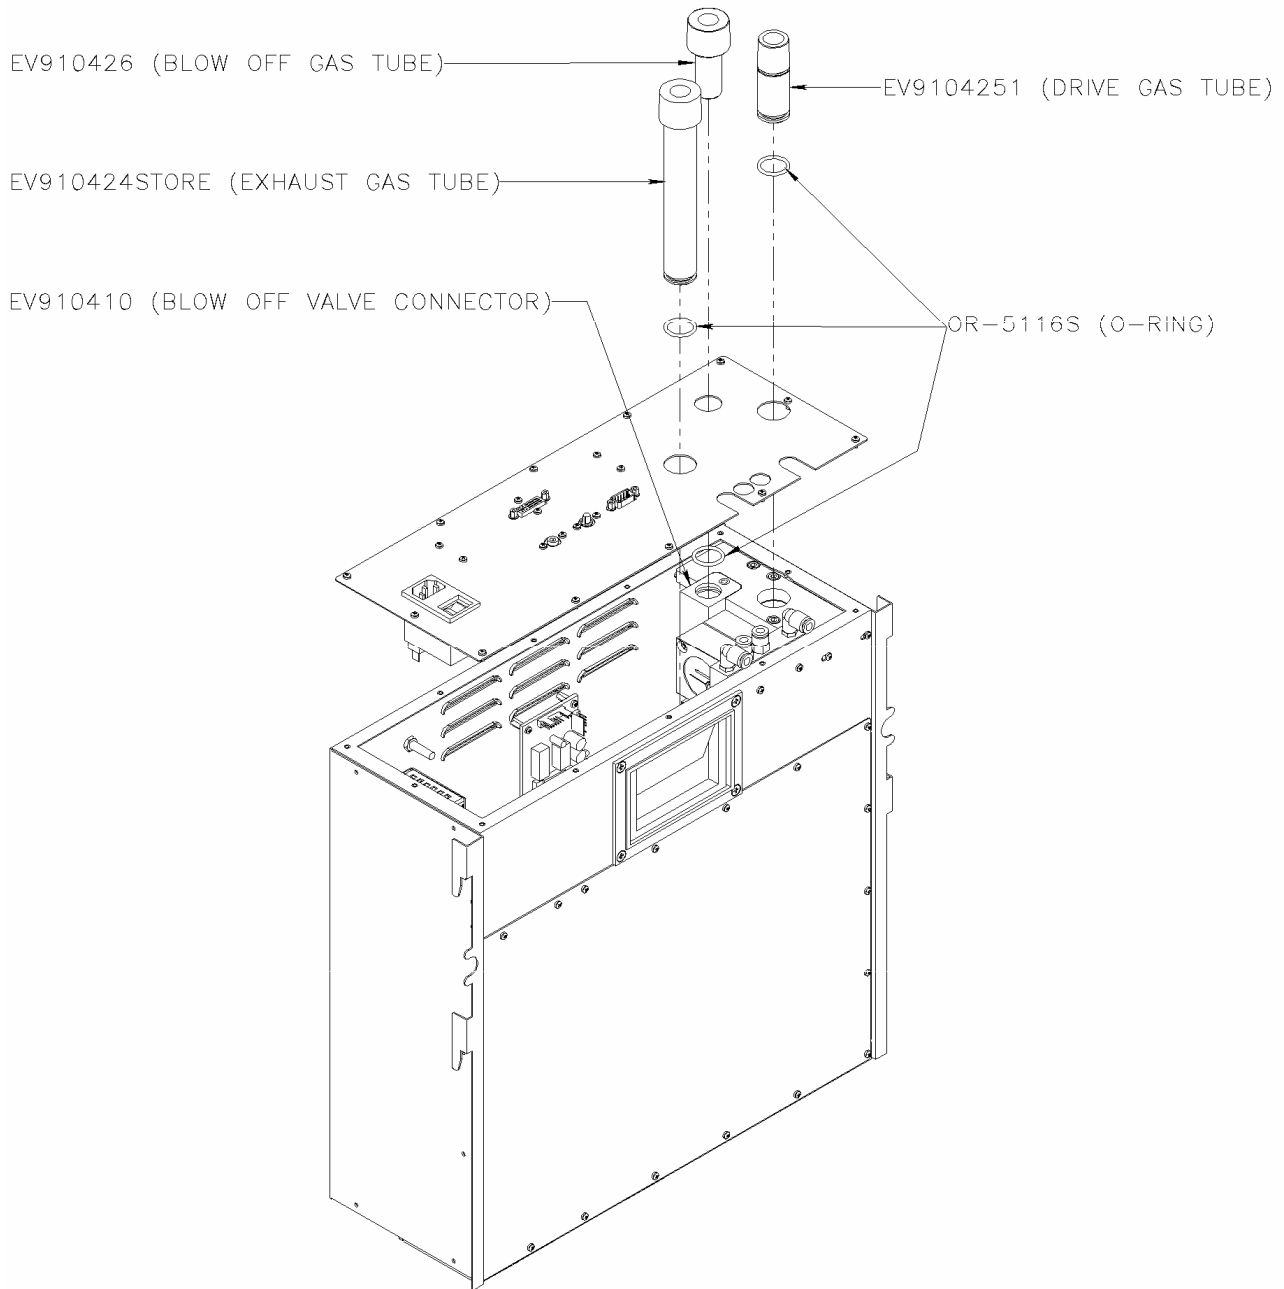

Figure 13: O-ring replacement
1. **Replacement of o-rings OR-5116S. Refer to Figure 13.**